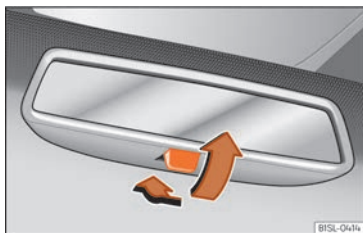

Fig. 87 Manual anti-dazzle function for rear vision mirror
- To darken the mirror, pull the lever back »» **Fig. 87.**